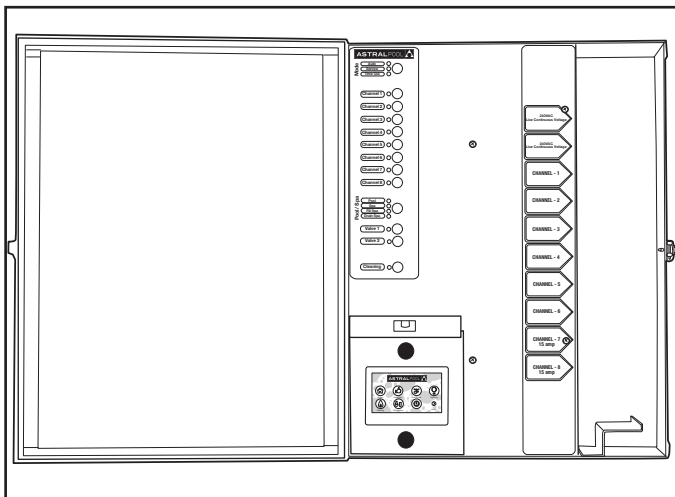

Figure 7. Touchscreen in Electrical Box
- Use an RJ12 cable to connect the appropriate transceiver for your communication choice. The RJ12 port is located at the bottom of the transceiver. See Figure 7.